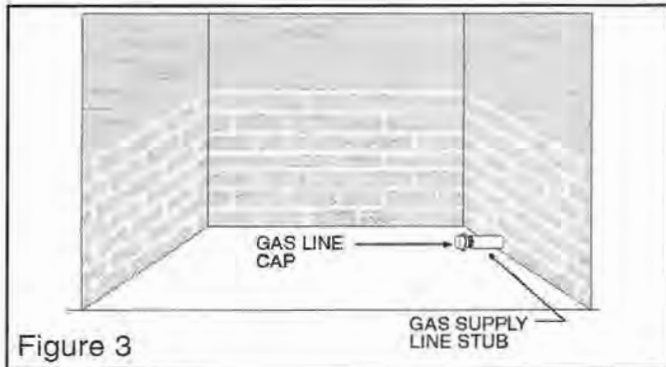

Figure 3
6. Remove the cap from the gas supply line stub in the fireplace (Figure 3). **Caution:** Be sure that, when removing the cap, the stub does not turn, loosening the connection inside the wall.